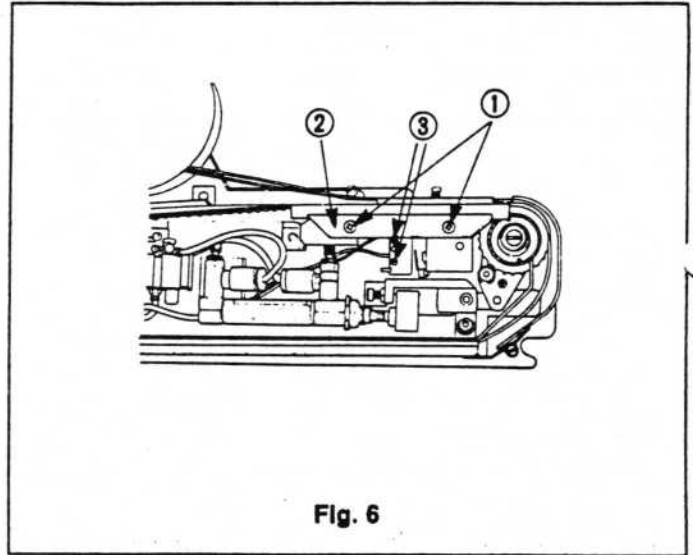

Fig. 6
- (1) Remove the screws (①, x 2) (see Fig. 6).
- (2) Remove the block ② (see Fig. 6).
- (3) Remove the screws (③, x 2) (see Fig. 6).